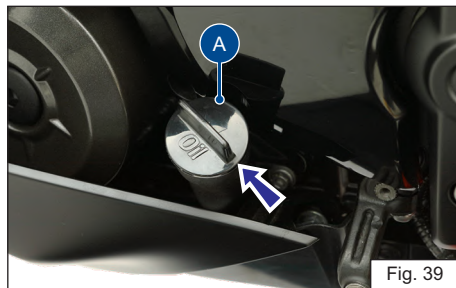
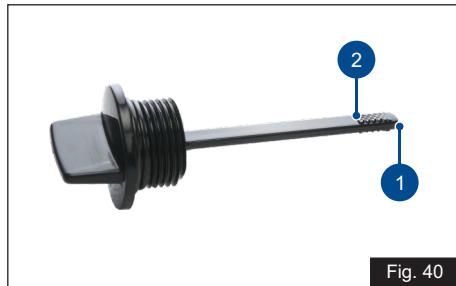

Fig. 39
Fig. 40
To check the engine oil level, a gauge oil level (dip stick) (A) given on the left side of the crankcase (ref. Fig. 39).
- ◆ After 2 to 3 minutes, remove the gauge oil level (A) and wipe it cleanly.
- ◆ The level should be between minimum (1) and maximum level (2) mark on the gauge (ref. Fig. 40).
- ◆ If the level is below the minimum level (1), slowly add recommended engine oil till the level reaches to maximum level (2).